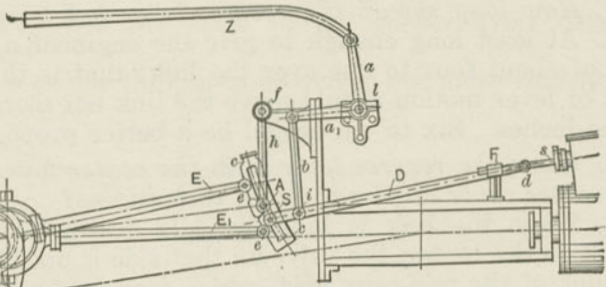

Fig. 196. Reversing Gear.
A. Yes; for instance, those shown in Figs. 196, 197, 198.